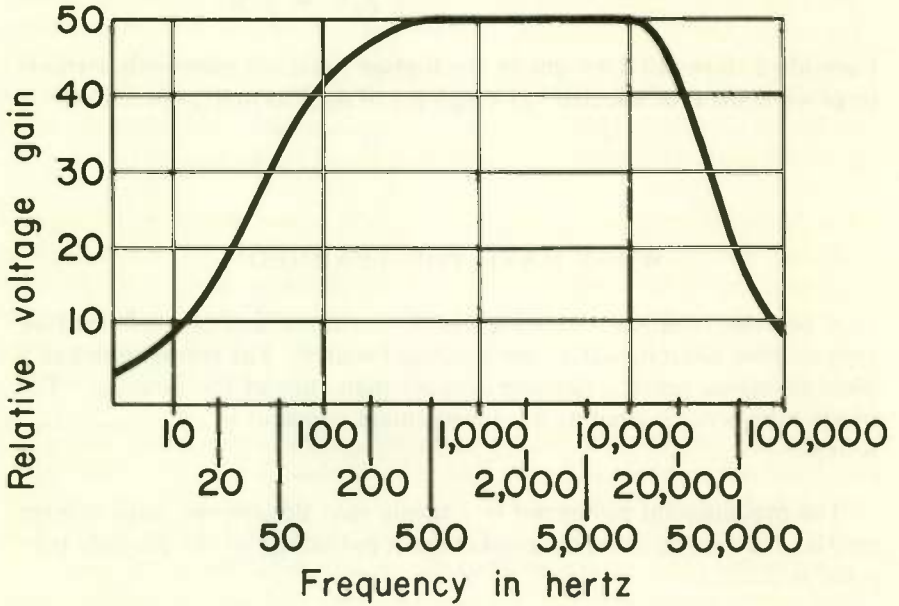
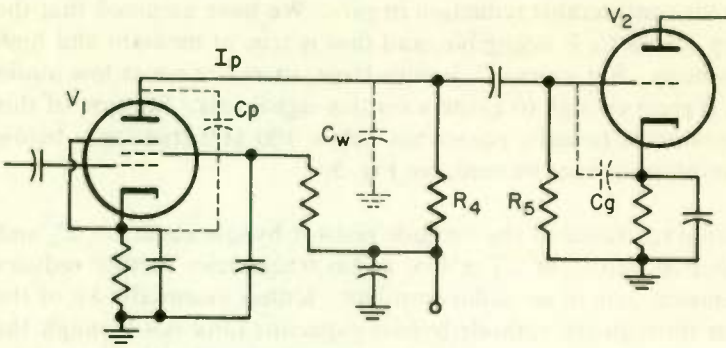

Fig. 5 Typical ordinary RC-coupled audio amplifier response curve.
Fig. 6 Figure 1(a) redrawn to show stray capacitances.
responsible for considerable reduction in gain. We have assumed that the voltage drop across C_4 is negligible, and that is true at medium and high audio frequencies. But unless C_4 is very large, its reactance at low audio frequencies is great enough to cause a serious signal loss. Because of this there is a minimum (usually somewhat below 100 Hz) frequency below which the amplifier cannot be used; see Fig. 5.
At frequencies above 10,000 Hz or so, frequency response also drops off, and the amplifier is unusable above a certain frequency. The high-frequency dropoff is caused by certain unavoidable capacitances associated with the tube and wiring. The wiring between the stages in Fig. 1(a) acts like the plate of a capacitor, the chassis being the other plate. At high audio frequencies the reactance of this stray wiring capacitance is sufficiently low that some of I_p flows through this capacitance. Figure 6 shows how the stray wiring capacitance C_w is in shunt with R_4 . We saw how some of I_p flowing through R_5 reduced the gain. Losing more of I_p through C_w further reduces the signal current through R_4 and thus further reduces the gain.
There are other capacitances shunting R_4 besides C_w . One of them is C_g in Fig. 6. This is the input capacitance within the tube that the signal on the grid sees. It results from the fact that the elements within the tube also act as the plate of a capacitor. Another capacitor that shunts part of the signal current I_p away from R_4 is C_p , the interelement capacitance between plate and cathode of tube V_1 . All these capacitances taken together shunt off I_p to the point where the stage gain is very little at high frequencies. Figure 5 shows a typical frequency response curve for an ordinary RC-coupled amplifier, such as the one in Fig. 1(a).
creased by lowering the load impedance (R_4 in Fig. 6). Since it is then easier for the signal to get through the intended load, not so much is lost through the shunting capacitances.
2. What is the bandwidth in Fig. 5?
4. Refer to Fig. 6. The ideal reactance at high frequencies of capacitors C_p , C_w , and C_g is (a) *infinite* / *zero ohms*. If the three capacitors had this value of reactance, there (b) *would* / *would not* be a loss of signal current through them.
6. Refer to Fig. 6. One way to increase the high-frequency response *would* / *would not* be to directly shunt C_p and C_w with inductors to form parallel tanks resonant at high frequency.